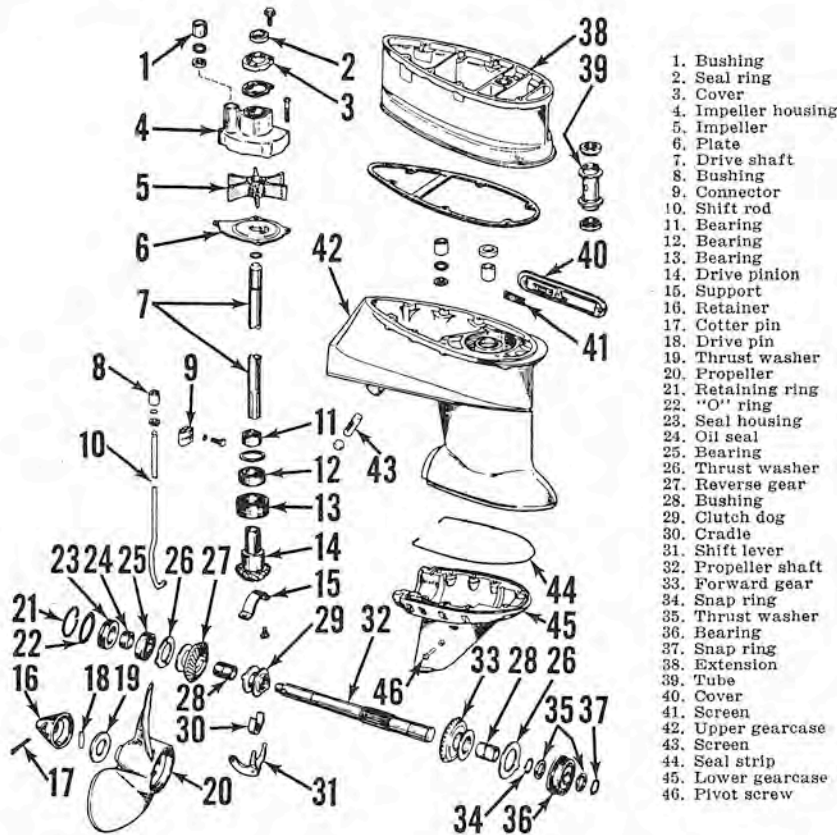
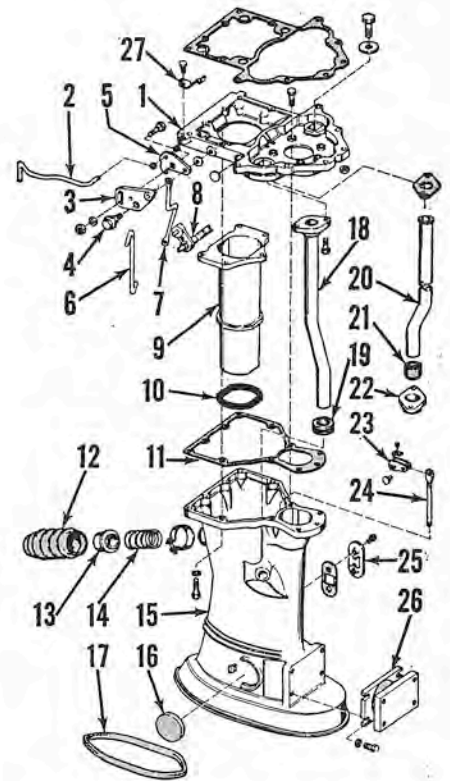
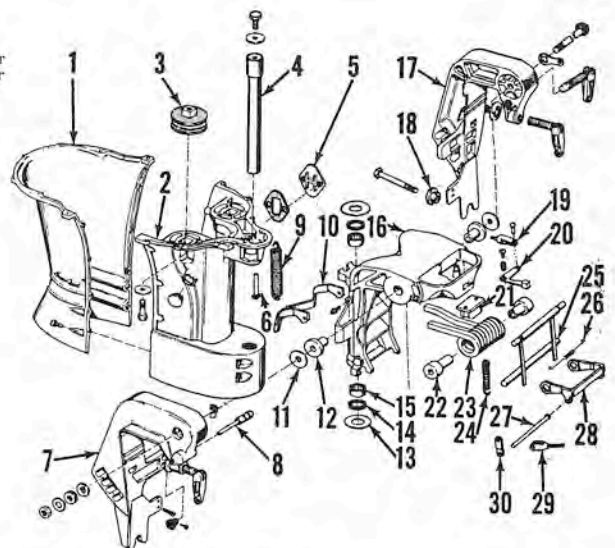
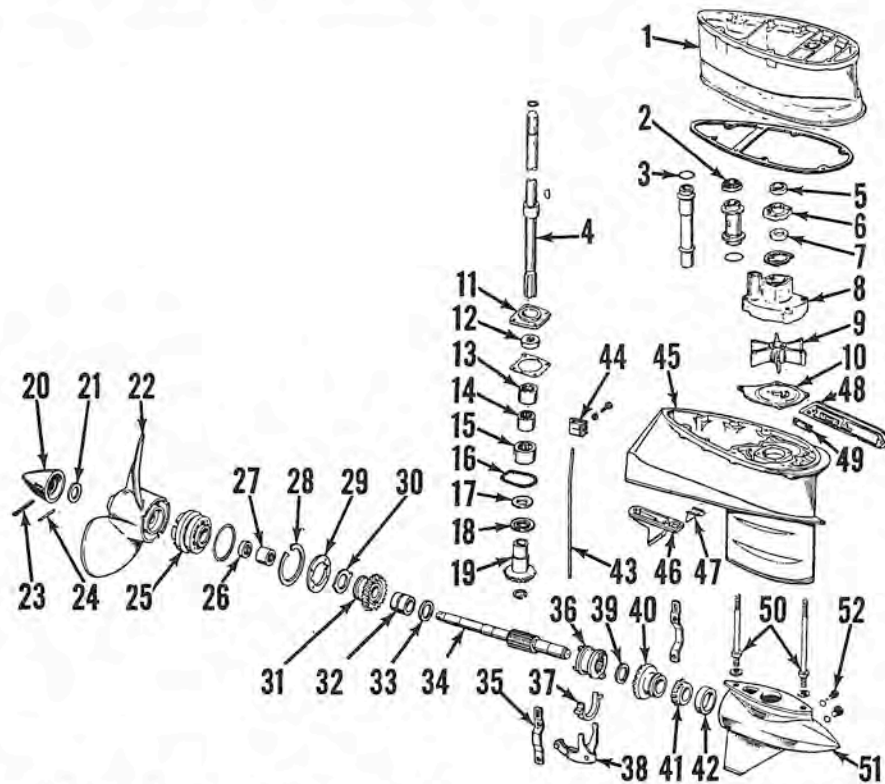

Fig. J108 — Exploded view of lower unit gearcase, water pump and associated parts used on 50 hp models. Items (38 & 39) are only used with "Long" models.
Fig. J109 — Exploded view of drive shaft housing, exhaust housing and associated parts used on 50 hp models.
Fig. J110 — Exploded view of stern bracket, swivel bracket, exhaust housing and associated parts used on 75 hp models.
Fig. J111 — Exploded view of lower unit gearcase, water pump and associated parts used on 75 hp models. Items (1, 2 & 3) are used only on "Long" models.
Use appropriate exploded views (Figs. J108 through J111) as a guide when overhauling the lower unit. All gasket surfaces must be smooth, free from nicks and burrs, and assembled using a non-hardening type sealer such as Permatex No. 1 or Perfect Seal No. 4. All joints without gaskets must be smooth and free from nicks, burrs and old cement, and sealed with a hardening sealer such as "Sealer 1000" available from Marprox Corporation, P. O. Box 955, Sheboygan, Wisconsin. Refer to CONDENSED SERVICE DATA table for repair specifications and recommended tightening torques.
1958 and 1959 Motors: The propeller shaft (32—Fig. J108), shaft gears and bearings can be removed after draining lubricant from gear compartment and removing shift lever pivot screw (46); then unbolting and removing lower housing (45). To remove drive pinion (14), it is first necessary to remove retainer strap (15).
To separate gear case from the exhaust and drive shaft housing, remove outer cover (5—Fig. J110) and inner cover (25—Fig. J109); then loosen the screw in shift rod clamp (9—Fig. J108). Remove the retaining cap screws and separate gear case (42) from exhaust housing.
1960 and Later Motors (Except "Electromatic"): To remove the propeller shaft (34—Fig. J111) it is first necessary to detach pinion housing (45) from exhaust and drive shaft housing as follows: Remove covers (5—Fig. J110) and (25—Fig. J109) and loosen the screw in shift rod clamp (44—Fig. J111); then unbolt and remove the gear case from exhaust housing. Remove the two upper nuts from studs (50) and withdraw the gearcase (51) from pinion housing (45). To remove the propeller shaft and gears, first remove the propeller assembly, remove the screws retaining gearcase head (25) then remove the gearcase head using a suitable puller. Remove snap ring (28) and retainer plate (29). Remove the clamping screw from shifter yokes (35), remove the yokes and shifter rod (43), the shifter fork pivot screw (52); then withdraw the propeller shaft from housing. Forward gear (40) and bearing cone (41) will remain in housing as propeller shaft is withdrawn. Remove driving pinion (19); then remove forward gear (40) by tilting it to clear shifter pivot boss.
Assemble by reversing the disassembly procedure, using Fig. J111 as a guide. The following assembly notes will assist in efficient reassembly: